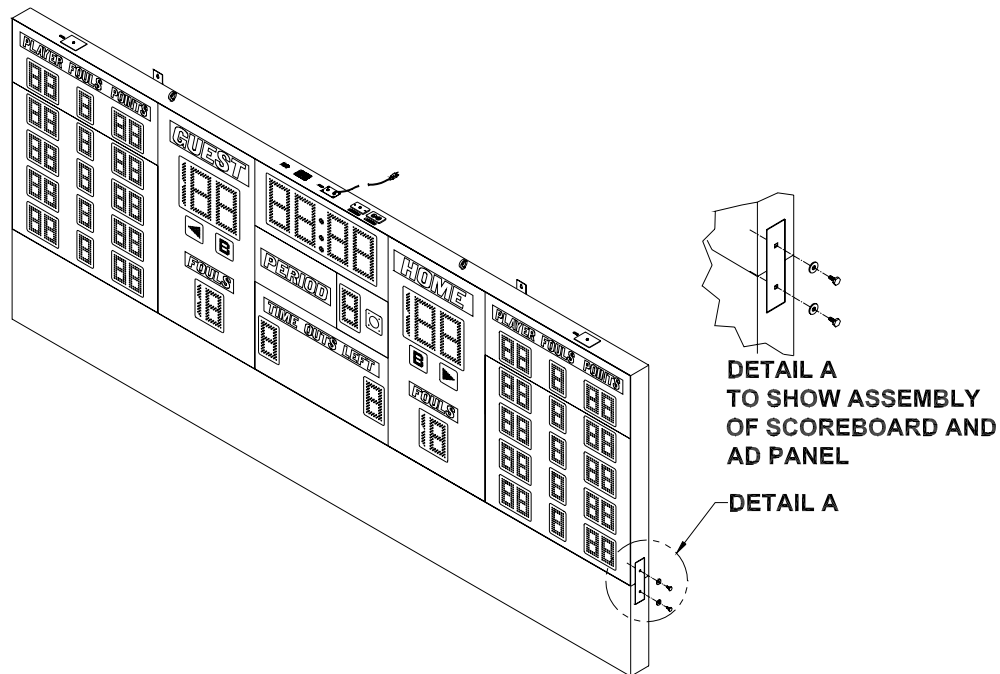

Figure 3 2557 with Bottom Sponsor Panel Attached
2. Fasten an attachment plate to the right side of the scoreboard and sponsor panel using the provided washers and bolts as shown in figure 3.